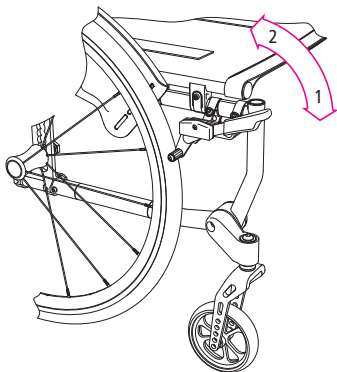

Fig. 15
1. The parking brake is locked by pushing the lever forward/down (1, Fig.15). The brake engages in this position.
2. The brake is released again by pulling the lever upwards (2, Fig. 15).